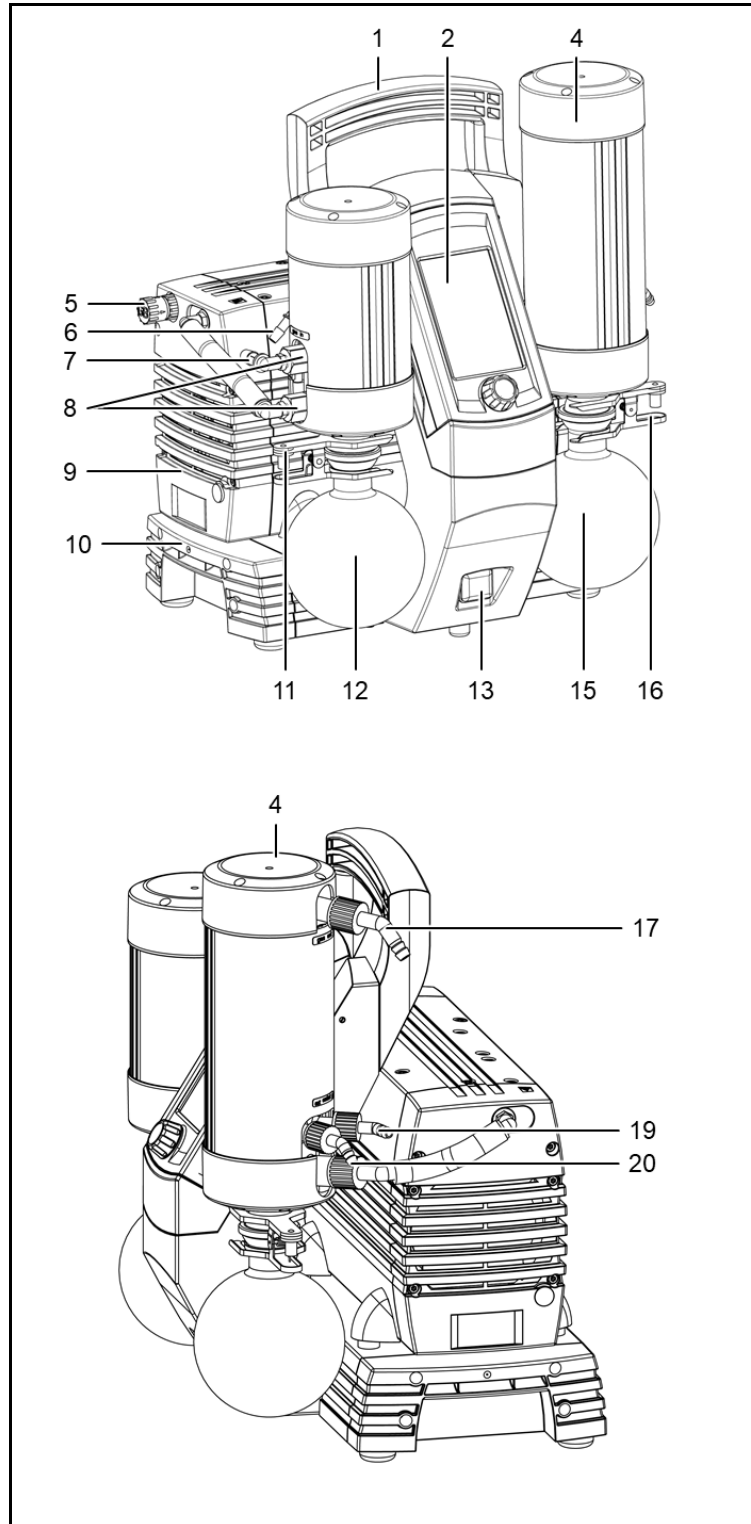

Fig. 2: Vacuum pump system SC 920G
**Ventilating the vacuum pump system** When ventilating the vacuum pump system with air or inert gas, be sure to prevent formation of reactive or explosive media. The maximum permissible operating pressure at the ventilation connection (Fig 2/5, page 11) is 0.1 bar g.
Collection flask (Fig. 2/12) collects on the suction side of the pump particles and drops that were, contrary to the requirements of the pump, suctioned from the vacuum chamber. The collection flask is coated (implosion protection) and fastened to the vacuum pump system via a flask clip.
Solvents deposited in the high-performance condenser are collected in the coated (for explosion protection) collection flask (Fig. 2/15). A flask clip secures the glass flask to the condenser flange. A recirculating cooler or continuously flowing cold water cools the high-performance condenser to the condensation temperature.
Gas ballast The gas ballast switch (Fig. 2/5) can be used to open and close the gas ballast valve on the vacuum pump system's pump (see Chapter 5.5).
1. Connect the vacuum chamber to the gas inlet's hose connector (Fig. 2/7, page 11, for hose inside diameter of 10 mm). For this, vacuum tubing must be used.
2. Connect hose to high-performance condenser in order to discharge gas exhaust (Fig. 2/17, page 11).
3. Attach coolant feed and return to high-performance condenser (Fig. 2/19 and 20, page 11).
4. If necessary: Connect inert gas supply to ventilation connection (Fig. 2/6, page 11). Observe the safety instructions in chapter 3.